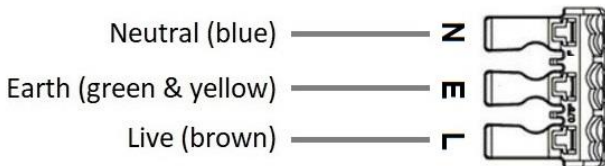

Fig. 2
- Connect to the mains supply ensuring the correct polarity is observed (see Fig. 2): L – Live (brown), E – Earth (green/yellow), N – Neutral (blue). The earth terminal is non-functional and only provided for convenience. Two cables can be inserted into the push-fit terminal block in order to achieve loop-in/loop-out wiring